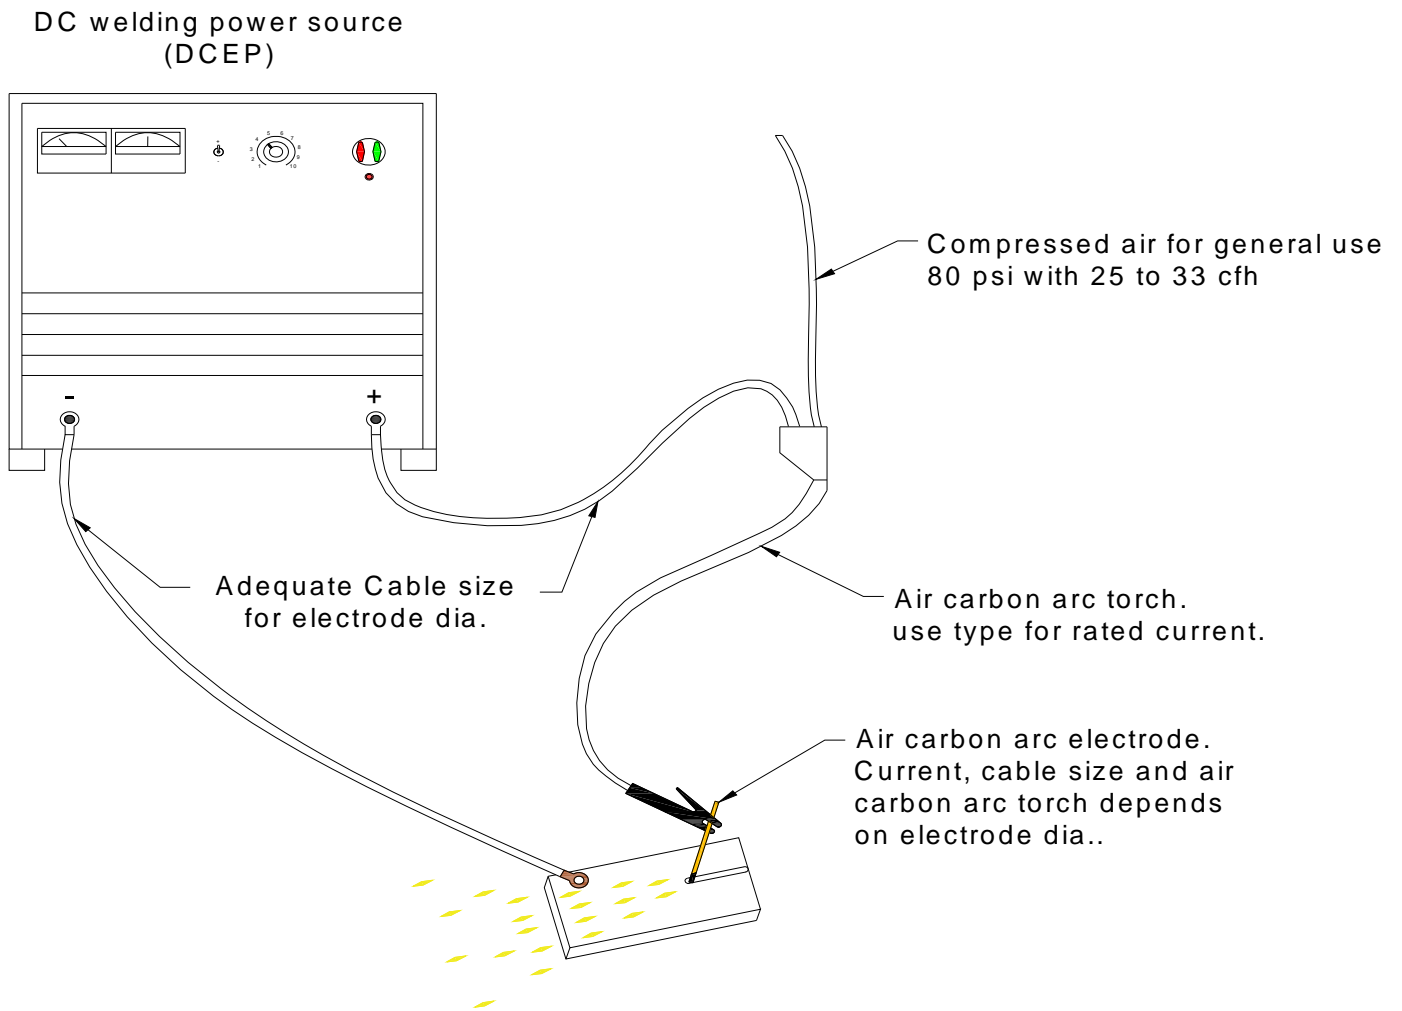

Figure 3.1 Air carbon arc setup for general use with DCEP
3.1 Like arc welding, arc carbon air gouging uses an intense arc to create a molten pool on the work piece. The process requires a welding power source, air compressor, carbon electrode, and gouging torch, see figure 3.1 below.
- 3.3 For manual gouging, set up equipment as per figure 3.1, start the welding power source, turn on air before striking the plate. The arc will ignite by lightly touching the electrode to the work.